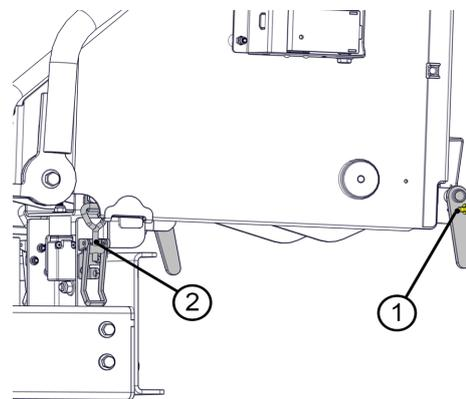

Figure 22 - Tray and Funnel Removal
3. Remove the locking pins from each side, withdraw both hinges and remove the tray from the feed funnel (Figure 22, Item 1).
5. Locate the two securing catches underneath the feed funnel and release them to detach the funnel from the chassis (Figure 22, Item 2).